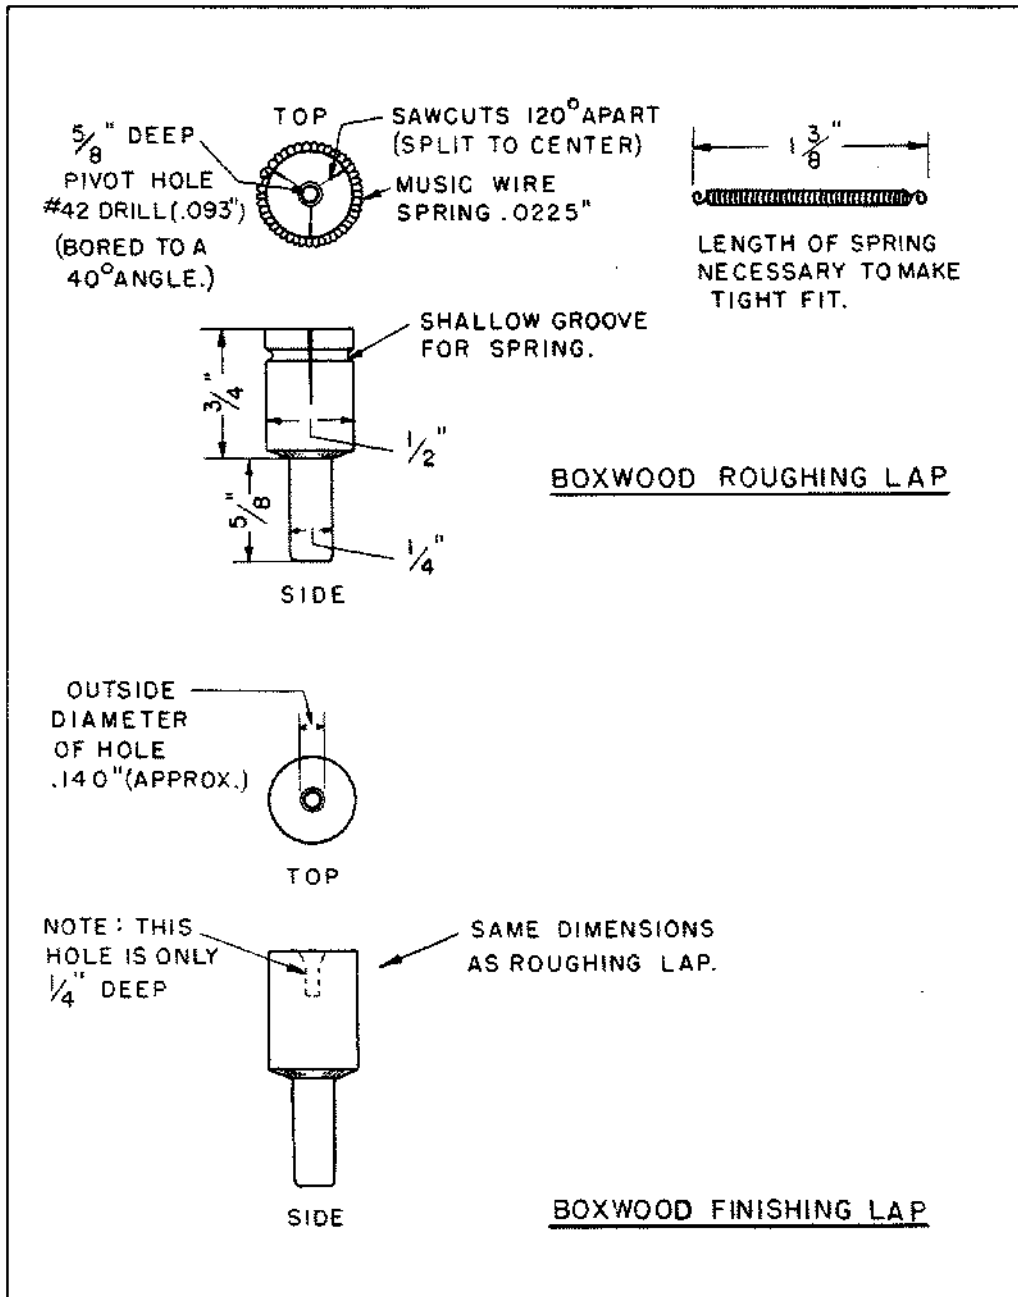

FIGURE 14 PRINCIPAL DIMENSIONS OF THE LAPS
6. Two laps are used, a roughing lap and a finishing lap. These laps are made of box-wood and are shown in Fig. 14. Instructions for making these laps are given on page 18.
1. The first, or roughing lap, is made of boxwood to the dimensions shown in Fig.14. The sawcuts are made 120 degrees apart and are only for the purpose of guiding the splitting of the lap. They should never be so deep that they touch the lapping surface. It is best to turn the lap, bore out the angle for the pivot (40 degrees) and turn the shallow groove for the spring, and then with a jeweler's saw make the three cuts. With a heavy knife, carefully split the lap at these points, and then put the spring in place. The spring is wound from .0225 inch music wire on a 1/16 inch arbor or length of drill rod. Make it of such a length that it is difficult to stretch it over the lap with the fingers.